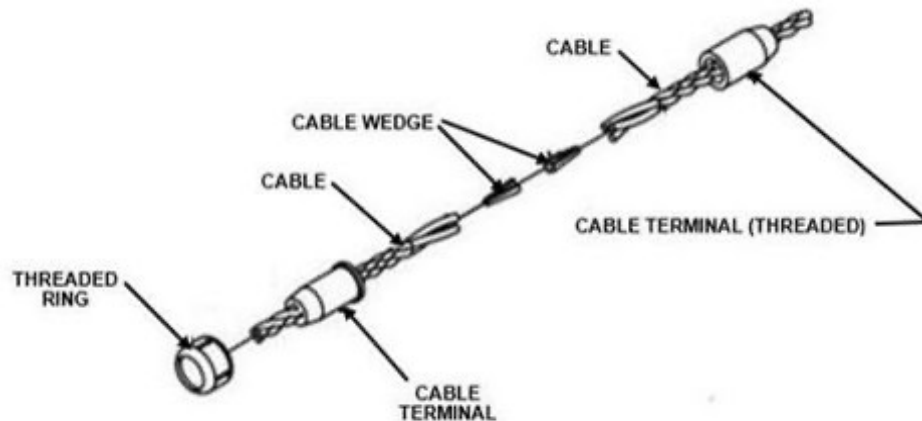

Figure 7
When two cable ends are spliced together other than where a spliced with a turnbuckle, a Torpedo Cable Splice can be used. The Torpedo Cable Splice (PN-4099G) is made up of two (2) housings, one of which has threads on it, a threaded ring, and two (2) triangular wedges. See Figure 7.